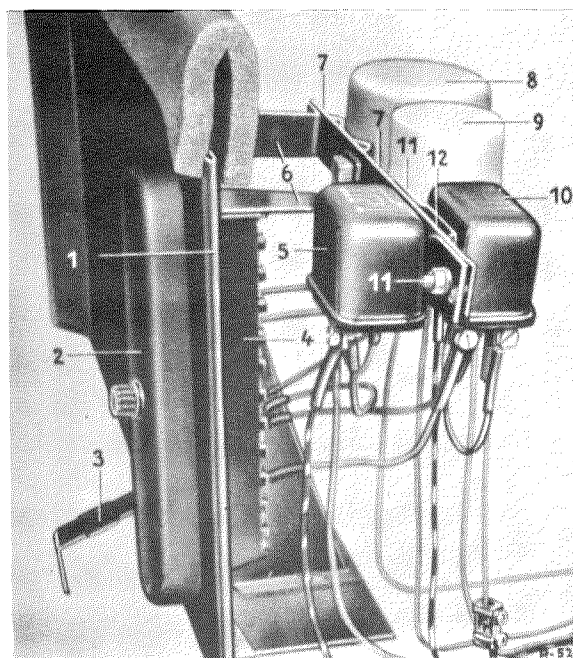

Fig. 54 — 15/3
7. Screw the disk-type horn (5) Bosch HO/FDF 12 4/8 (with medium tone) with the hexagon screw (11) M 10 X 28, together with nut and lock washer, onto the bracket (7) which is fitted to the wheel arch assembly.
8. Screw the disk-type horn (3) Bosch HO/FDF 12 5/8 (with high tone) with the hexagon screw (11) M 10 X 28, together with nut and lock washer, to the bracket (2) which has been welded to the cross-tube.
9. Unscrew the two hexagon screws (7) for fixing the two flash signal mechanisms (8) and (9) (see Fig. 54 — 15/3).
In this case the contactor (5) for the horn assembly should be so mounted that the rear sides of the two contactors are facing each other (Fig. 54 — 15/3).